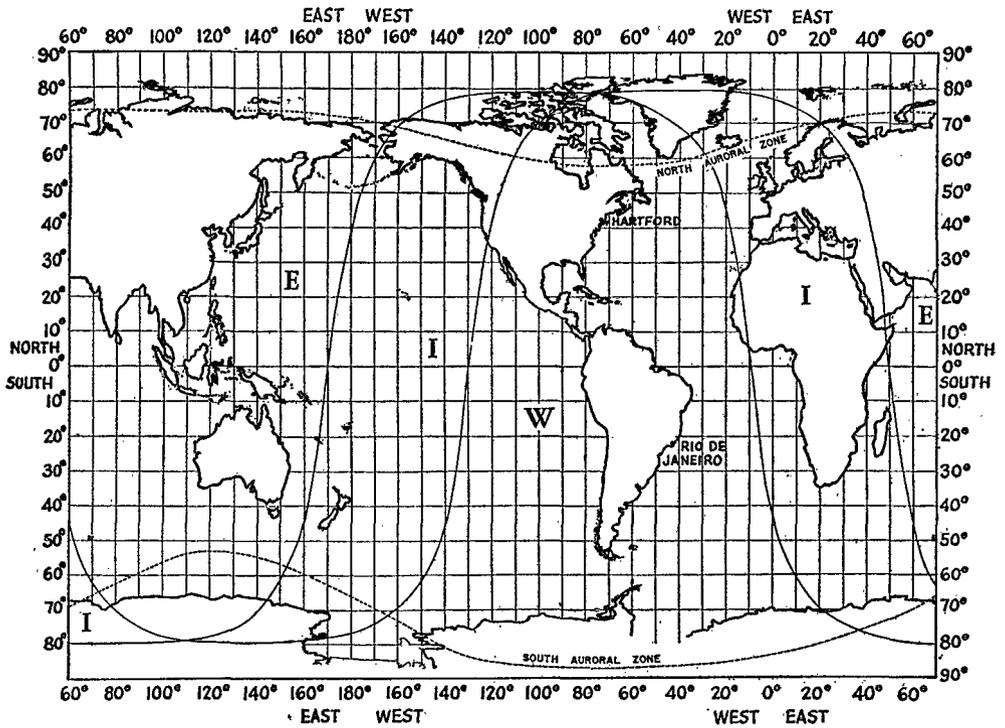

Fig. 5 — Modified cylindrical projection map of the world showing the three  $F_2$  layer zones.
ocean areas. The addition of data from new ionospheric measuring stations confirmed this fact. To take account of this variation, the world is divided into three "zones," and separate  $F_2$  layer charts are published for each zone. The proper chart to use is determined by the zone in which each control point is located. The zones are shown in Fig. 5.
outline map, Fig. 5. Next take a sheet of transparent paper1 and draw a horizontal line in the center to represent the equator; also draw a vertical line in the middle to represent local time at Hartford. Place this sheet over Fig. 5 with your equator line on the equator, and with your Hartford time line on Hartford. Mark the locations of both Hartford and Rio on the transparent sheet.
Now return the transparent sheet to Fig. 5 very briefly to determine the zone in which each of the control points is located. In this example both control points are in the "W" zone, so we use the "W" zone frequency chart to read the values for both control points. At this point it will be convenient to rule up a working sheet to tabulate the figures. Four columns will be needed, headed (1) Local time at Hartford, (2) MUF at west control point, (3) MUF at east control point, and (4) MUF for path. Twenty-four lines will be needed to accommodate entries for each hour of the day.